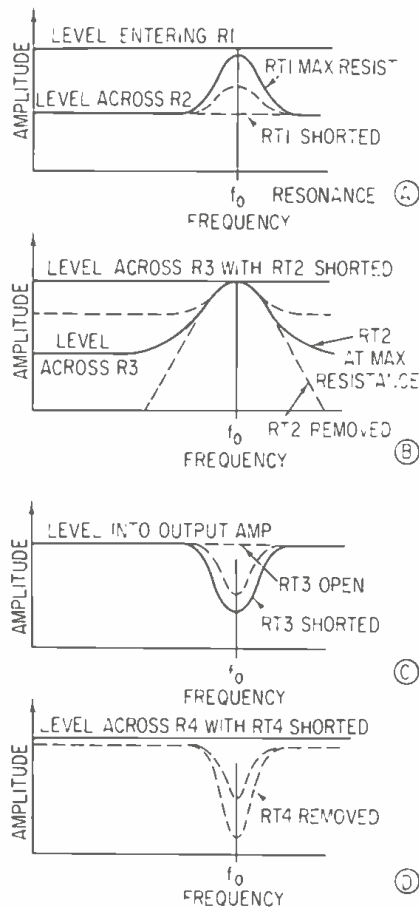

Figure 2. The results of L-pad manipulation.
In circuit (B) the tank circuit is a series one and presents very high series resistance at all frequencies other than resonance. Being a part of the L pad, the tank circuit produces very high insertion loss for all non-resonant frequencies, and the consequent voltage drop across R3 is very small. Using Rt 2, the action of the L pad is limited to the maximum loss produced by the L pad when Rt 2 is set for maximum resistance. Varying the shunt rheostat changes the loss at all other frequencies, but leaves the peak level of the resonance at the same level. This is demonstrated in FIGURE 2.